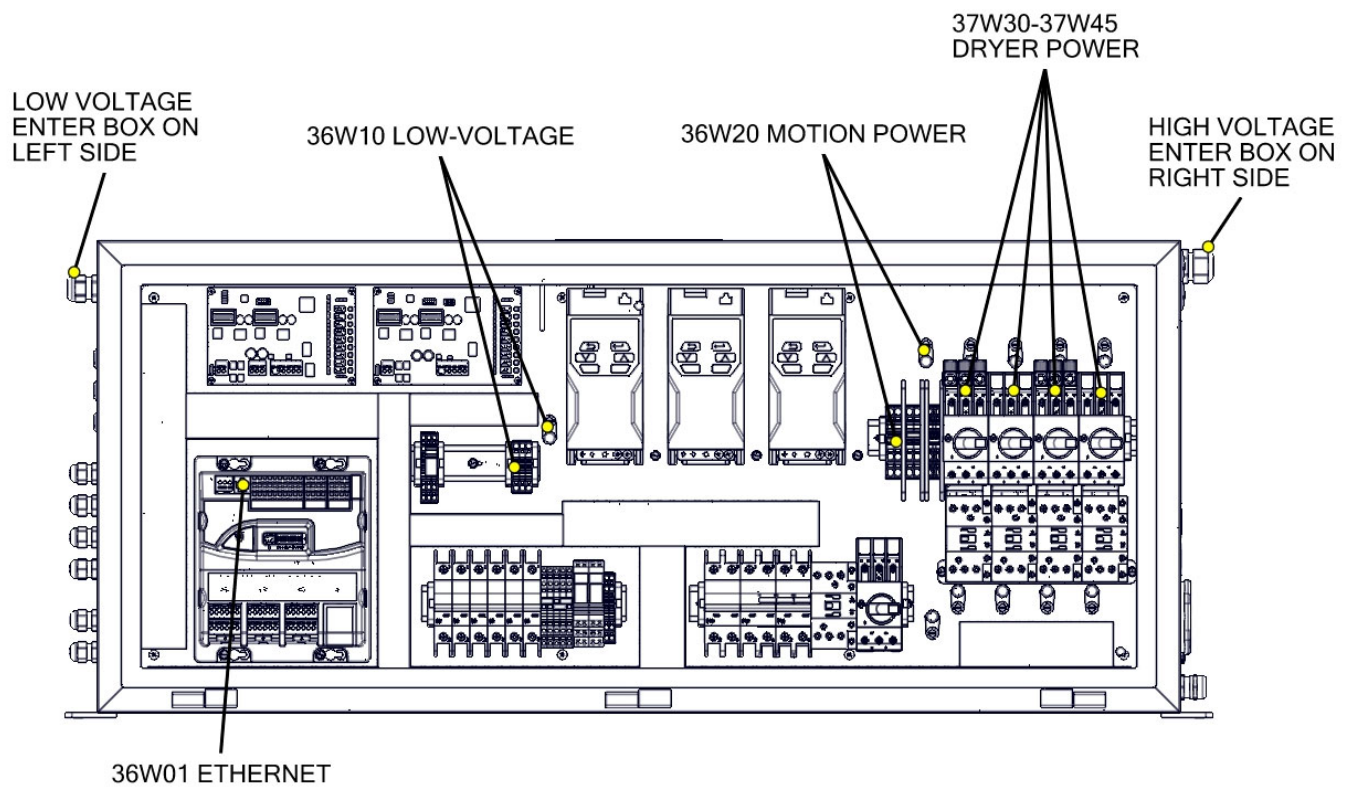

Figure 85 - Bridge Electrical Cable Terminations
- Connect the cables included in the E-chain to the appropriate termination points in the Bridge Control Panel enclosure. Terminate bridge motion power, low-voltage (and system-stop), Ethernet communication, and dryer power (if equipped), refer to Figure 85.